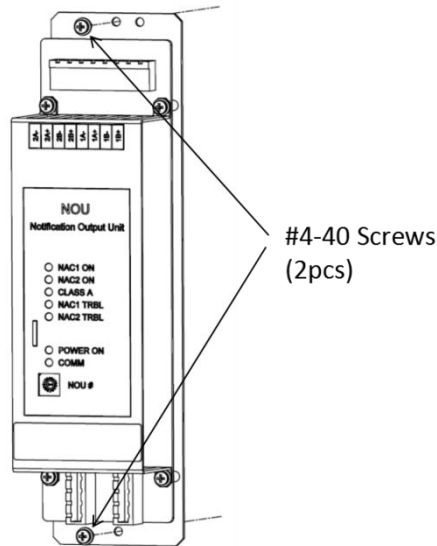
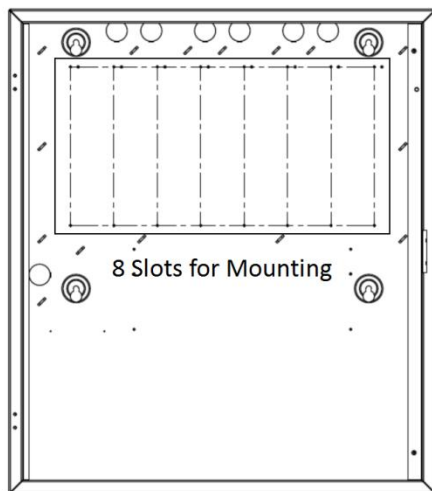

Figure 1. FW337 NOU Installation
Figure 2. FW106 FACP Mounting Positions
2. Mount the FW337 NOU onto the back box of the FW106 FACP using two #4-40 screws provided, see Figure 1. There are 8 identical slots for the installation in the back box. They are shared by the FW327 ALU, the FW337 NOU, the FW347 ROU, and the FW357 XNU, see Figure 2.